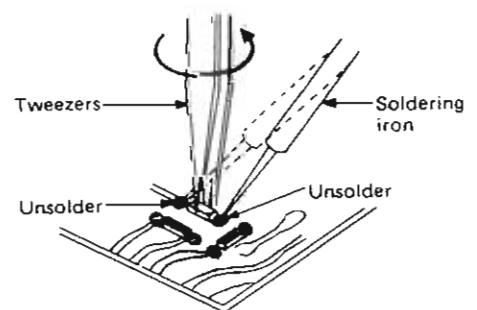

Fig. 5
2. Remove chip with tweezers by rotating it while removing solder as shown in fig. 5.